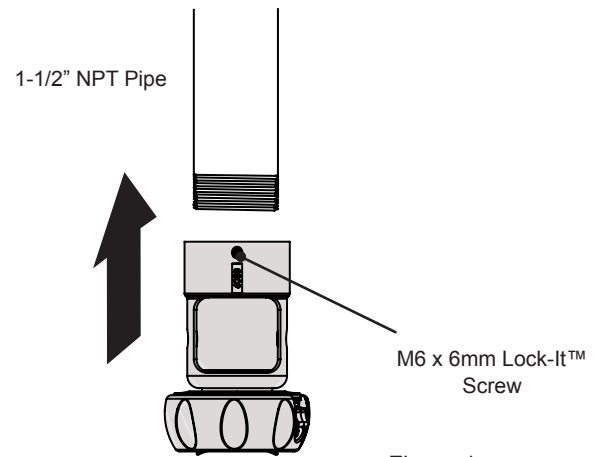
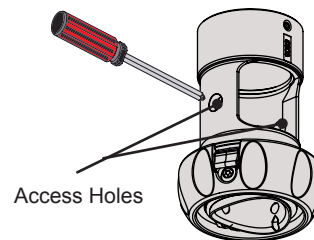

Figure 1
Figure 2
- 2 Attach the SpiroLock™ to the NPT pipe (Figure 1).
Make sure the SpiroLock™ is threaded into the NPT pipe at least four complete turns. If you have trouble turning, insert a screwdriver through both access holes and apply pressure when turning the SpiroLock™ (Figure 2).
- ❶ Insert a small straw or toothpick into the threaded inserts found on the bottom or top of the projector.
- ❷ Use a pencil to mark the depth of the threaded insert on the small straw or toothpick.
- ❸ Mark the straw or toothpick 1/8" above the depth of the threaded insert, as shown in Figure 1.
- ❹ Insert the small straw or toothpick into the remaining threaded inserts to compare and verify their depth using the straw or toothpick's 1/8" allowance mark.
- ❺ Locate the correct diameter screw for the threaded insert.
**!** If the screw you selected is longer than the 1/8" allowance mark on the small straw or toothpick, as shown in Figure 2 and Figure 3, do not use this screw. The screw length must not bypass the mark.